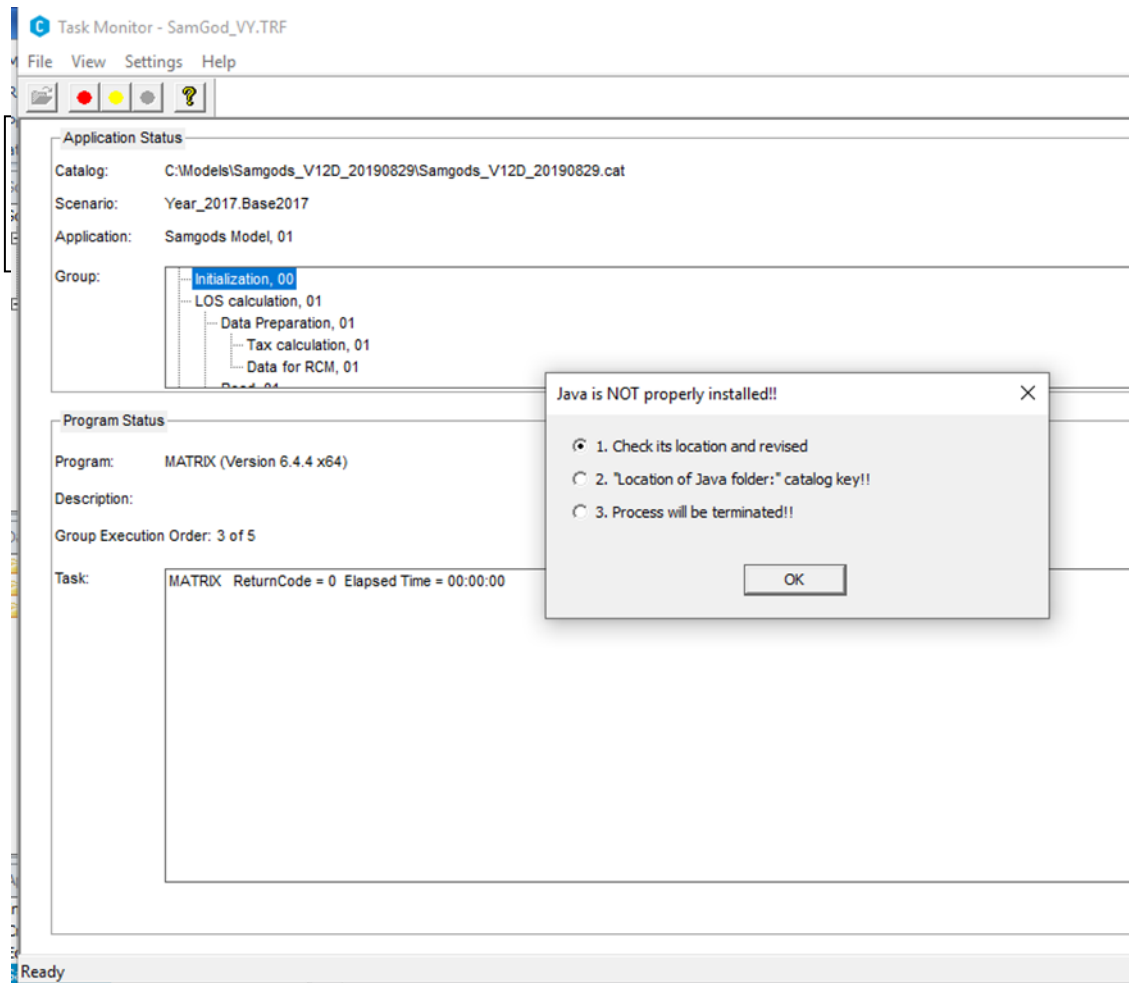

Figure 52 Warning message on Java installation
- c) "Maximum number of loops for Linear Programming process (LP)": number of LP loops the user would like to perform. Provide an integer value between 0 and 9. 0 will perform only LP0. The LogMod process will produce the best solutions and the suboptimal solutions (in terms of transport chains), the number of suboptimal solutions is controlled by the catalogue key " Number of transport chain solutions for the Logistics Module". It is recommended to not change these the default settings.
- 10) A message window appears with working on Java installation if the path is wrong. Process will terminate and user needs to revise "Location of Java folder:" catalogue key accordingly to settings on the computer. Example of pop-up message window is in Figure 52.